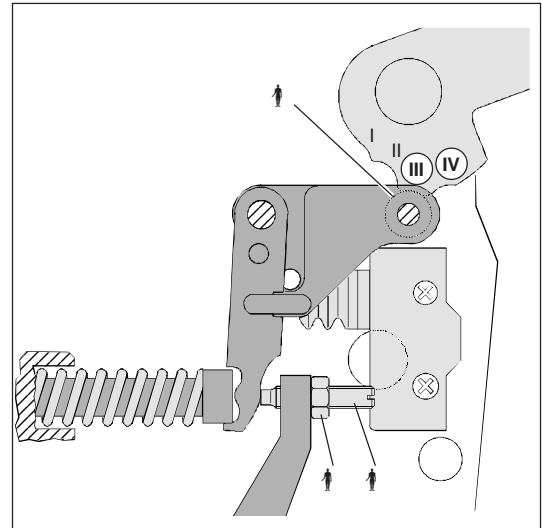

Fig. IV4-1
- a) Insert adjustment cam "B" in corresponding housing hole. Position cam on sleeve of actuating lever (item 1).
- b) Turn adjustment cam to position III. Fig. IV4-1
- c) Loosen lock nut (item 2) and adjust set screw (item 3) until brake jaws rest firmly on brake drum. Brake drum cannot be turned in this position.